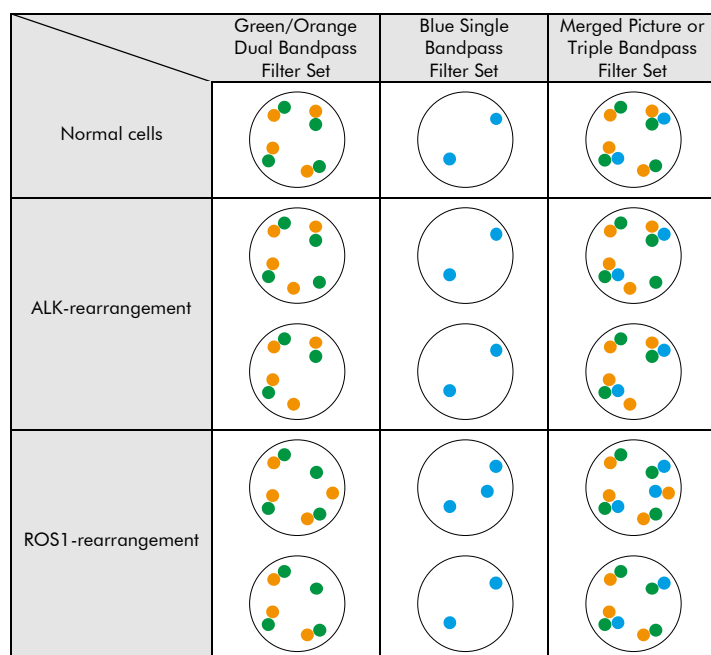

Fig. 2: Expected results in normal and aberrant nuclei
**Normal situation:** In interphases of normal cells or cells without a rearrangement involving the ALK or ROS1 gene region, four green/orange fusion signals appear when using an appropriate dual bandpass filter set, and two blue signals appear when using an appropriate single bandpass filter set (see Fig. 2).
**Aberrant situation:** : One ALK gene region affected by a translocation is indicated by one separate green signal and one separate orange signal not co-localizing with blue signals. Loss of one green signal resulting in an isolated orange signal is the result of a deletion of 5'-ALK sequences. One ROS1 gene region affected by a translocation is indicated by one separate green signal and one separate orange signal, each co-localizing with a blue signal. Loss of one orange signal resulting in an isolated green signal co-localizing with a blue signal is the result of a deletion distal to the ROS1 breakpoint region or due to an unbalanced translocation affecting this chromosomal region (see Fig. 2).